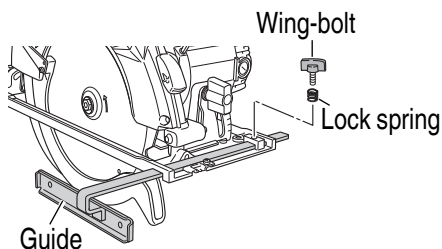

Fig. 8
4. Regulating the guide (**Fig. 8**)